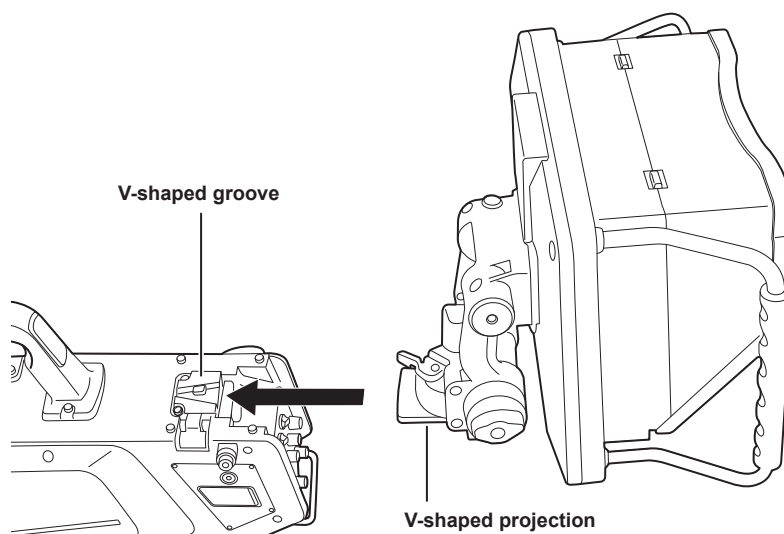

Fig. 2
- 3 Align the V-shaped projection of this unit to the V-shaped groove on the camera, and slide and push in until it is locked. (Fig. 2)